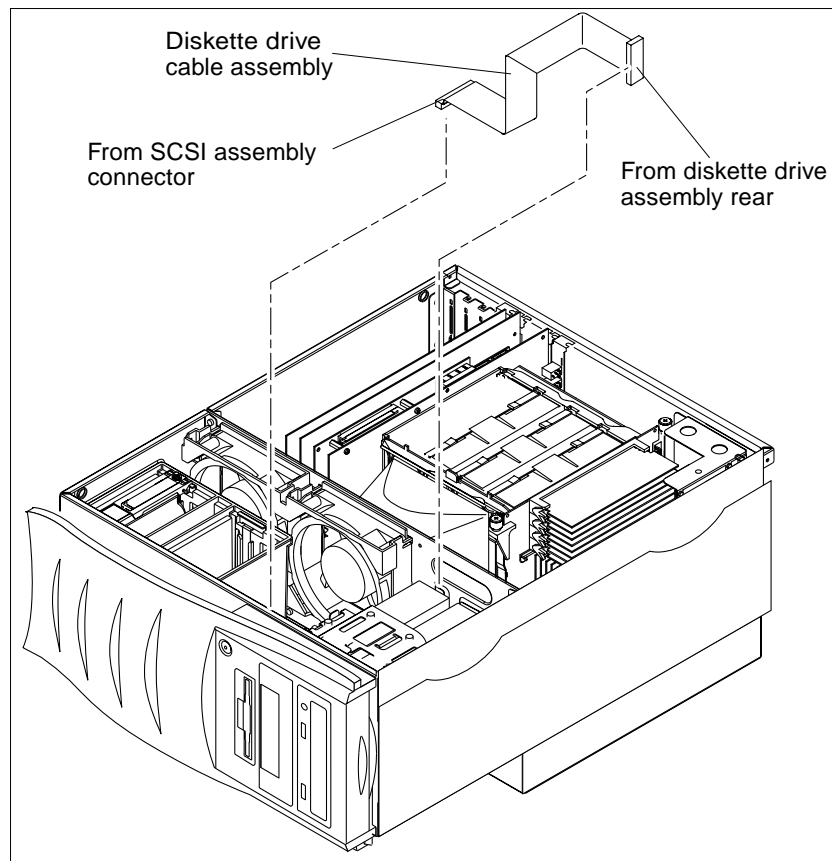

FIGURE 7-6 Removing and Replacing the Diskette Drive Cable Assembly
- 3. Disconnect the diskette drive cable assembly as follows (FIGURE 7-6):**
1. **Position the diskette drive cable assembly into the chassis** (FIGURE 7-6).
2. **Connect the diskette drive cable assembly as follows** (FIGURE 7-6):